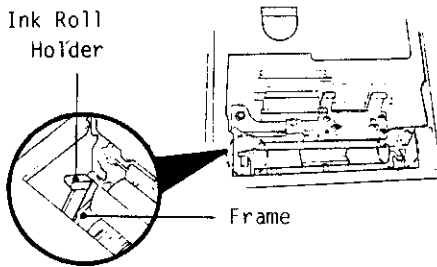

Fig. 3
4. Insert a new Ink Roll into the space between the Ink Roll Holder and the Frame. (Fig.3)